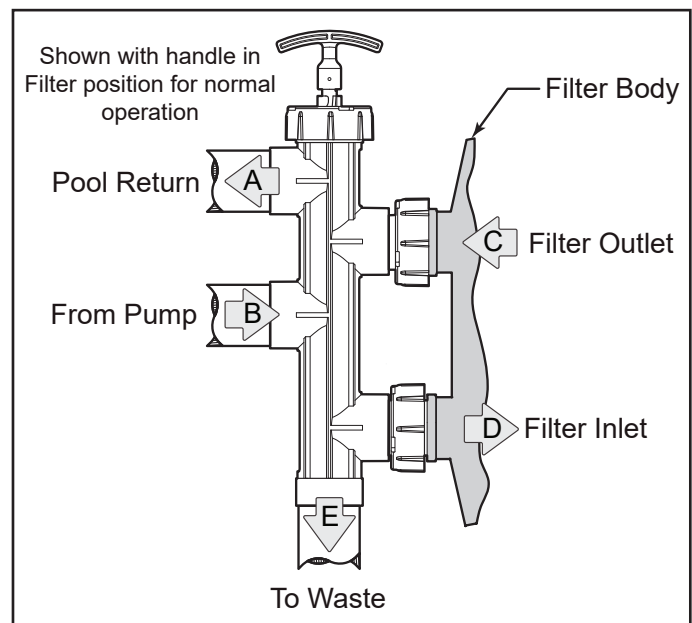

Figure 5. BWVL-SLD Installed
- Hold the slide valve upright and place onto the filter bulkheads. See Figure 5.
7. Return the slide valve handle to the normal operating position. See Figure 5.